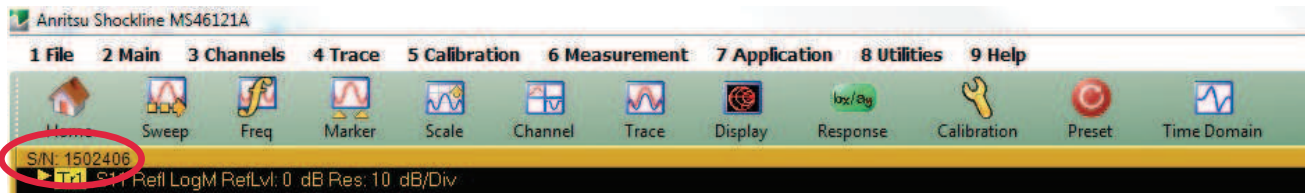

Figure 2-6. 1-Port VNA with serial number labeled on trace
- The ShockLine software will come up with the serial number of the MS46121A displayed in the channel label. See Figure 2-6.